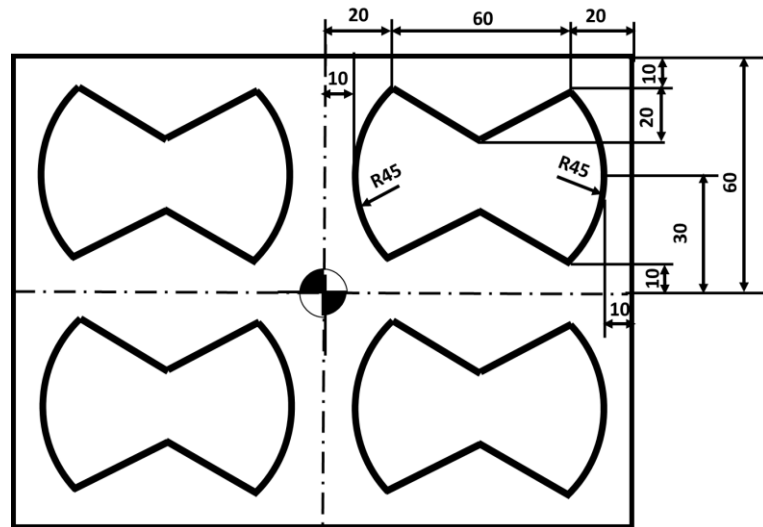

Figure 2
- 3A.** Write a part program to generate contour as shown in the Figure 2 below on a Vertical machining centre. Size of the work piece given is 200 mm x 120 mm x 10 mm. Depth of the contour = 3mm. Take cutter diameter = 3 mm. Depth of cut in each pass is limited to 1mm.